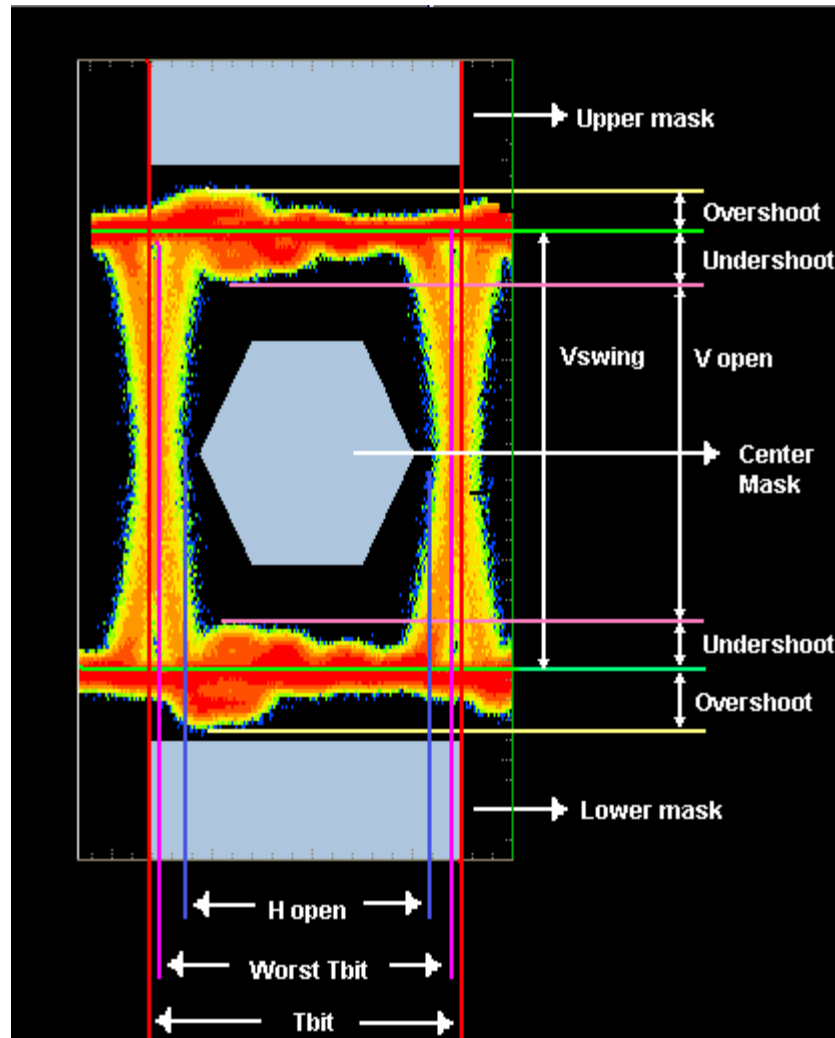

Figure 33: Eye definitions
2. Select the Go to Trend button to display the Vertical and Horizontal trends as shown in Figure 33.
Select the Zoom button to view the zoomed eye mask. Figure 33 shows the eye diagram parameters.